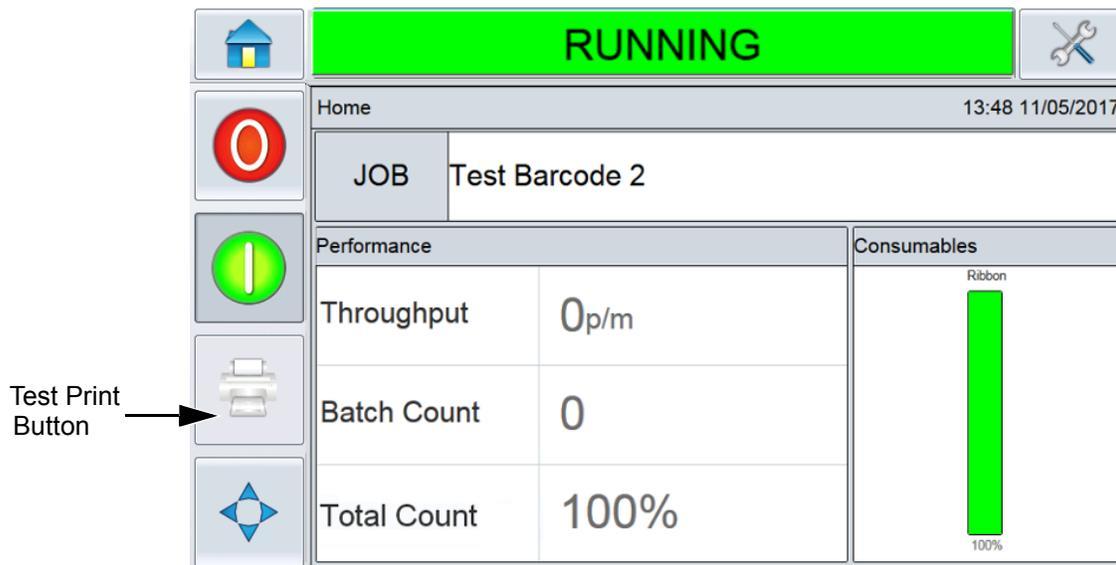

Figure 4-21: Test Print Button
A test image can be printed before running the printer to check if the printed image is of acceptable quality. The Test Print button (Figure 4-21), will appear greyed out if this feature has been disabled by the installation engineer. Also, the printer must be set to the RUNNING state for the Test Print button to be available.
3. Touch  in the CLARiTY's control frame (Figure 4-21). The printer performs the test print.